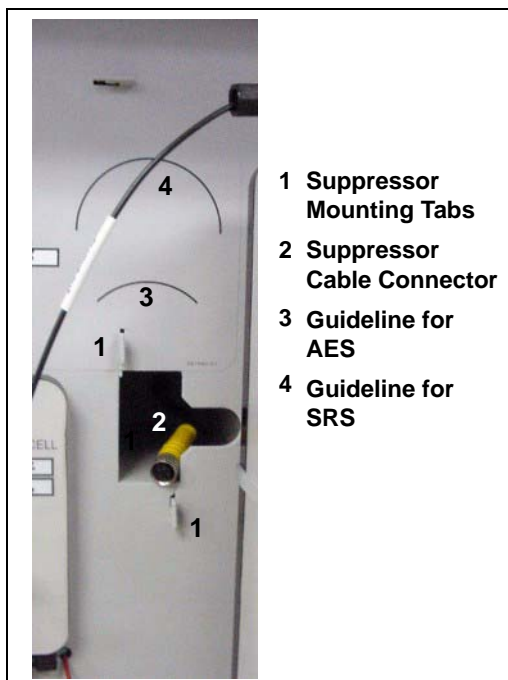

Figure 5-22. Suppressor Guidelines and Mounting Tabs on Component Panel
11. Align the top of the suppressor with the guide line printed on the component panel (see Figure 5-22) and align the slots on the rear of the suppressor with the tabs on the panel.